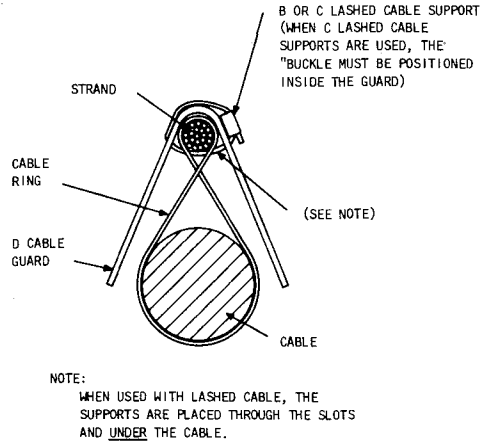

Fig. 3—D Cable Guard Installed on Ring Supported Cable
3.03 Install D cable guards in accordance with Fig. 3. Place B or C lashed cable supports in slots to secure cable guard to strand. Use a minimum of five supports per ten foot section of cable guard.